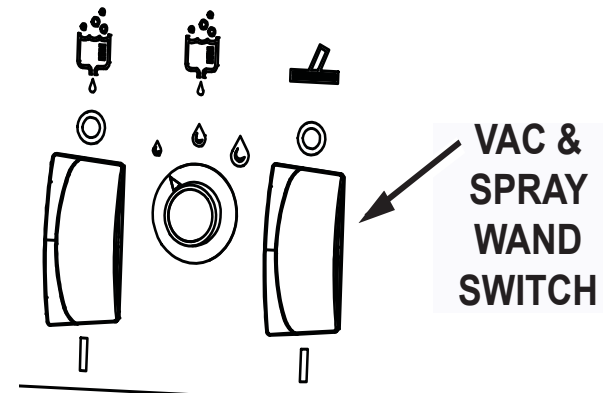

Fig. 2: Vacuum and Spray Wand Switch
3. Set the chemical metering flow rate. (See Fig. 2)
4. Turn on the chemical metering switch. (See Fig. 2)
10. Turn the Vac & Spray Wand switch located on the instrument panel to the “on” position. (See Fig. 2)